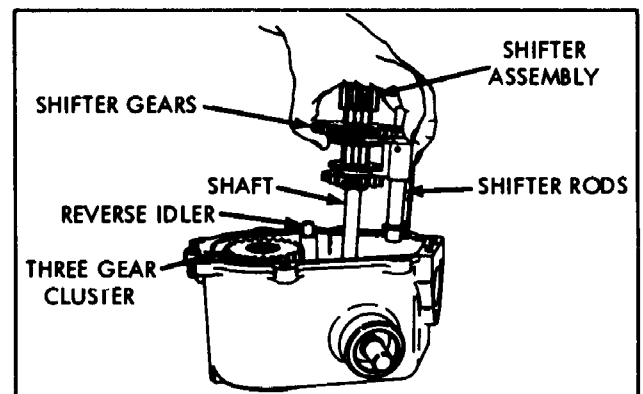

Figure 2-17
5. Insert shifter assembly. (Fig. 2-17.) Check that rods are seated properly. Note: Reverse idler shaft will be pushed out at this time.